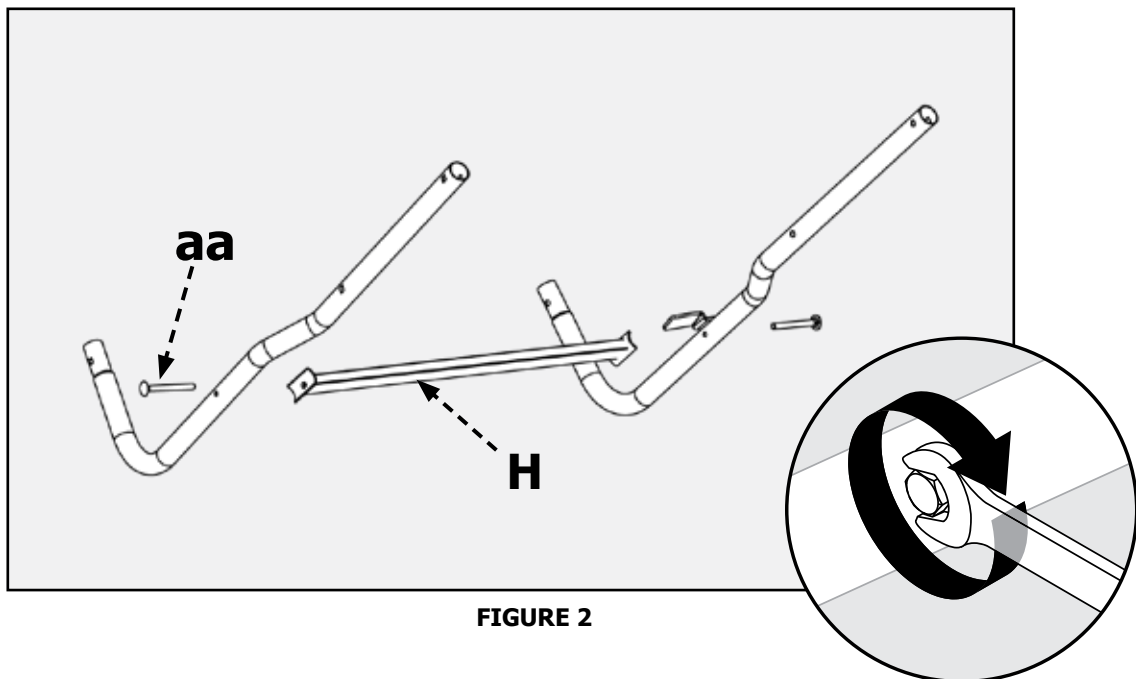

FIGURE 2
Attach Support Rod Connection Tube (G) onto the leg assembly from step Figure 2. Secure with M8 x 35mm (1.38"). cap screw (ff) and nut (dd).